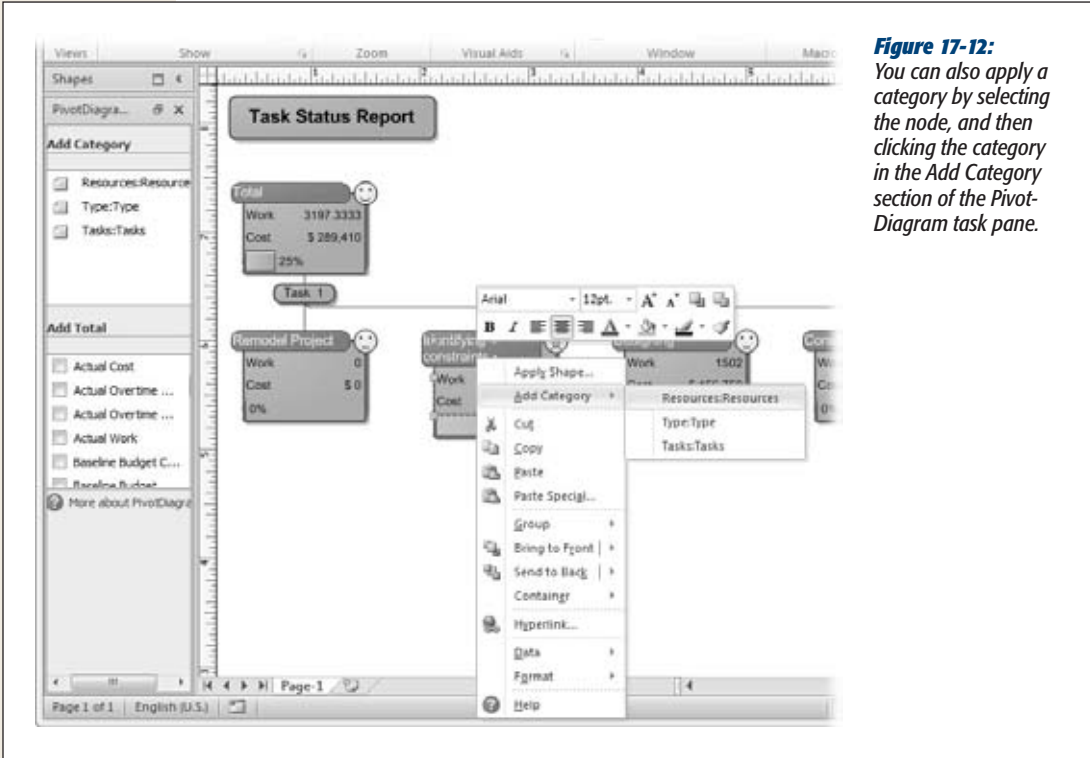

Figure 17-12: You can also apply a category by selecting the node, and then clicking the category in the Add Category section of the Pivot-Diagram task pane.
- **Add a new breakdown.** To break down a node into more detail, you add a category to that node. Right-click the node, and then, from the shortcut menu, choose Add Category. On the submenu, choose Resources:Resources, Type:Type, or Tasks:Tasks, as shown in Figure 17-12. For example, if the first level of the diagram shows project phases, you can add Tasks as the second level to build the equivalent of a work breakdown structure diagram. If you add Resources instead, then you can see how resources contribute to task values.